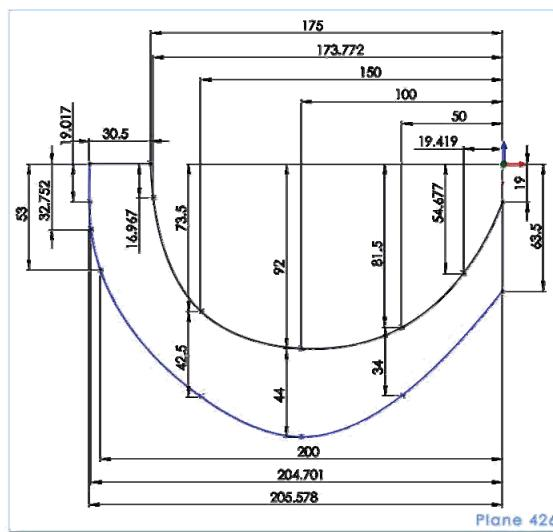

Fig. 3.11
**13 Schițare contur 6:** comanda Sketch- Fig. 3.11 – Selectie plan 426 / Schițare contur / .
**13 Sketching of the 6 contour:** the Sketch command - Fig. 3.11 – Select 426 Plane / Sketch the contour / .